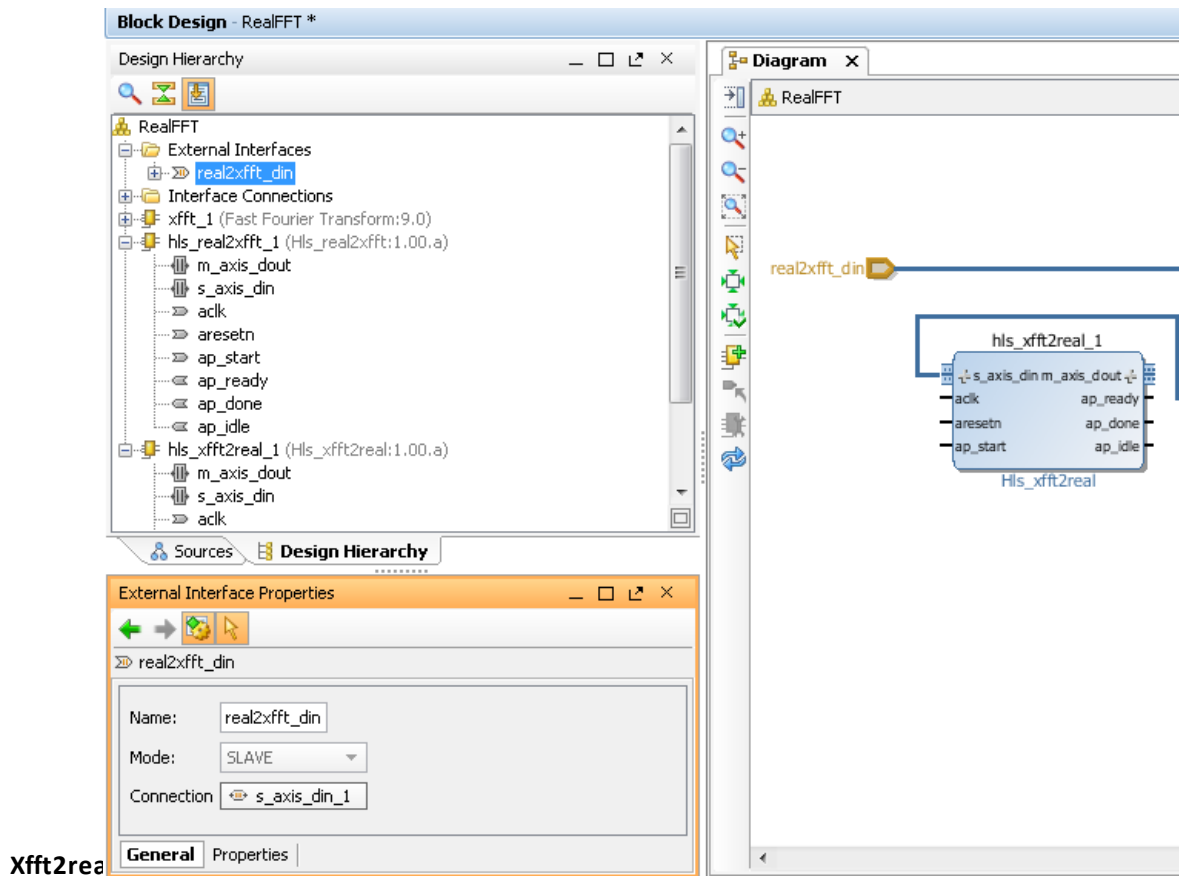

Figure 204: Port Naming
- In the **External Interface Properties** pane (Figure 204).